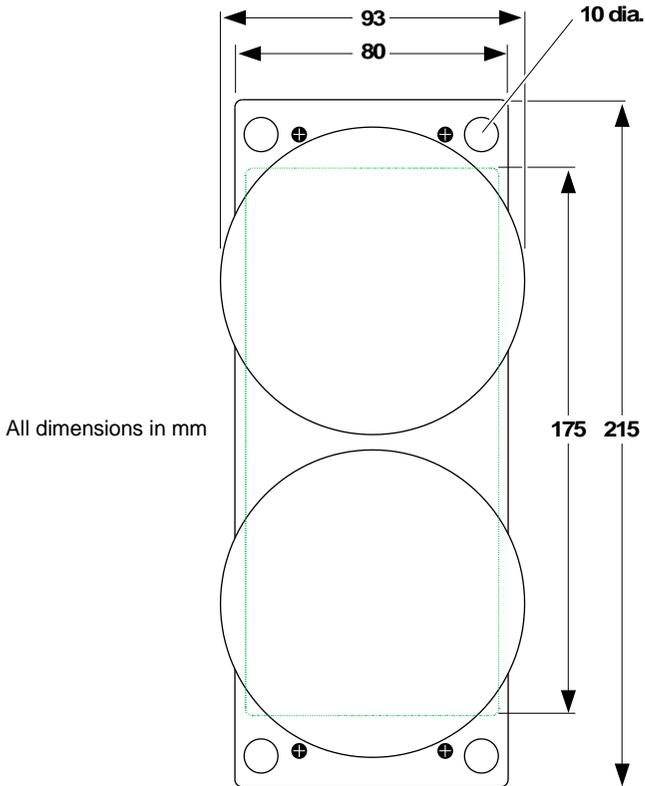

Figure C.2 Mounting Arrangements
C.5 Mounting Arrangements (Figure C.2)
For magnetic mounting, two rubber-enclosed magnet assemblies are fitted symmetrically to the underside of the head unit case. Figure C.2 shows the spacing and size of the assemblies.